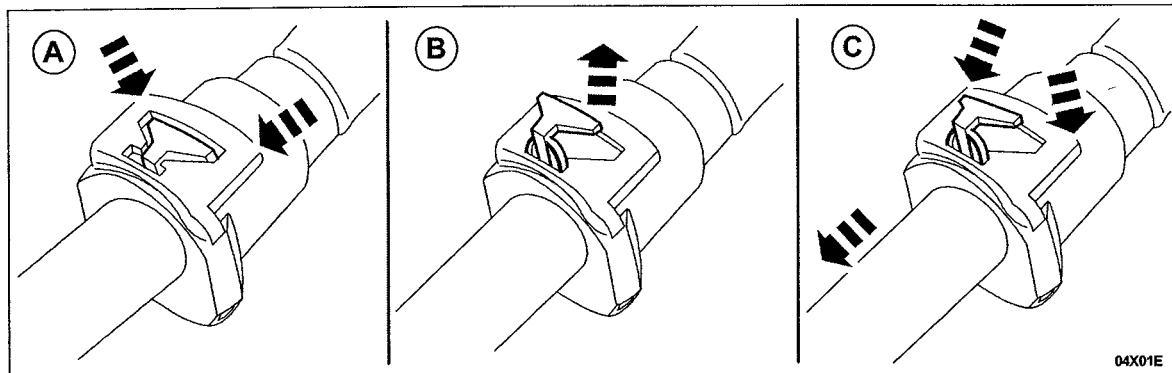

FIGURE 5
1. To disconnect: See Figure 5.